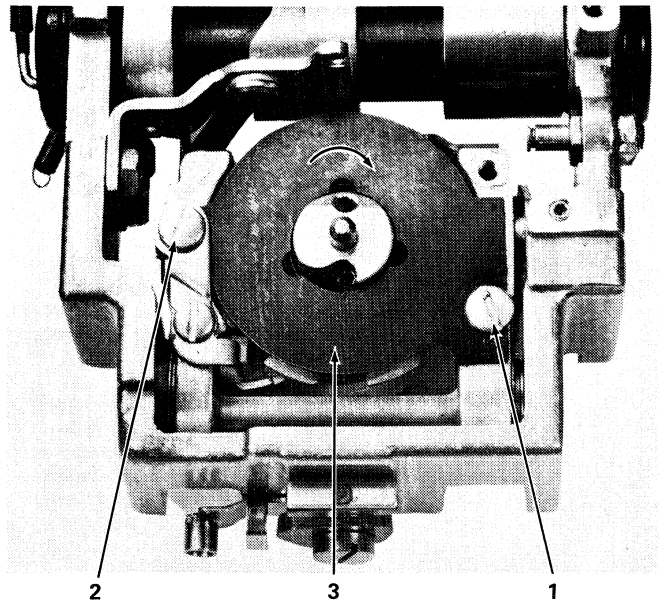

Figure 4-37. Rotate Spring Replacement (Bottom of Carrier)
3. Remove the right-hand screw (No. 1, Figure 4-37) and back out the upper left screw 1/4 inch (No. 2, Figure 4-37). It is not necessary to loosen the lower left screw.
4. Remove the rotate spring retaining plate (No. 3, Figure 4-37). The rotate spring can now be removed.